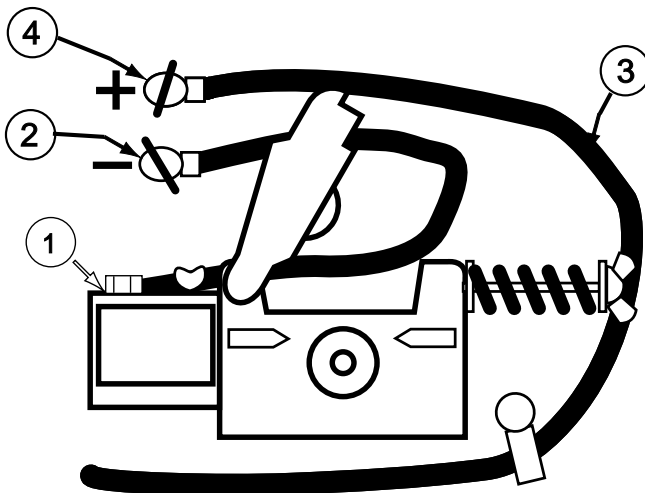

FIGURE A.4
5. **For Innershield Only:** Refer to Figure A.4. To wire for negative polarity (required for the Innershield process), connect the short cable attached to the connector block (1) to the negative (-) output terminal (2) and the work cable (3) to the positive (+) terminal (4).